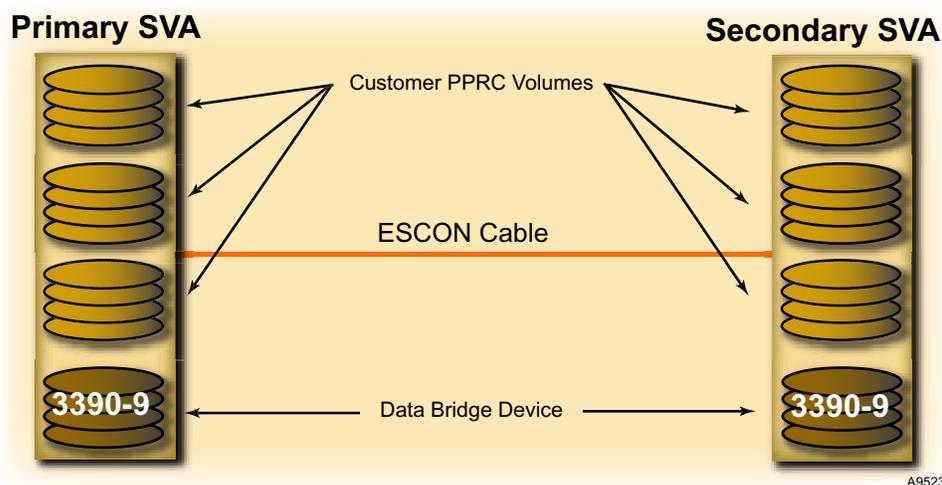

Figure 1 One Bridge Power PPRC Direct Connection
The principal advantage of Power PPRC Direct is the reduction in the number of PPRC start I/Os when transferring data tracks from the primary system to the secondary system. If a significant number of data tracks are being transferred to a secondary system, this can result in a considerable savings in time. A customer may establish as many as four direct bridge pairs, per direction, between the systems. Only one bridge path is shown in Figure 1.
3. The designation of one functional volume on each end for each bridge path. This volume is used to stage and transfer the data to the other storage system and is not available to the customer for conventional data storage. (See Figure 1 on page 31.)